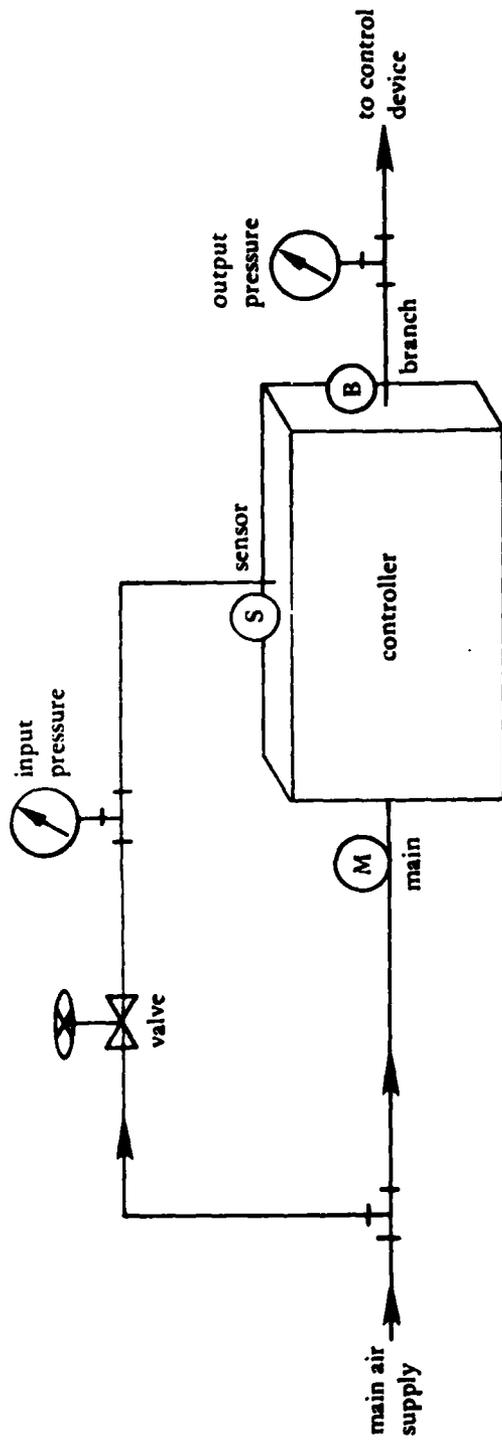

Figure 5. Illustration of test apparatus.
- (1) Disconnect the sensor (or input) line from the controller.
- (2) Connect a calibrated pneumatic gauge to the input port of the controller with a "T" connection (see Figure 5).
- (3) Connect an adjustable restriction, such as a needle valve, to the "T" connection.
- (4) Connect the free end of the adjustable restriction to the main air supply
- (5) Connect a calibrated pneumatic gauge to the output port of the controller.
- (6) Adjust the restriction until the input pressure gauge reads the value of the pressure corresponding to the desired setpoint. You will need data on sensor span and pressure range for this step.
- (7) Turn the setpoint adjustment screw until the output pressure equals the mid-point pressure value (typically 8 psi).
- (8) Adjust the setpoint scale to read the selected value of setpoint.
- (1) Disconnect both the primary and secondary sensors from the controller and install calibrated pressure gauges and adjustable restrictions in their place following the example of Figure 5.
- (2) Connect the open ends of the adjustable restrictions to the main air supply.
- (3) Connect a calibrated gauge to the output port.
- (4) Select one end of the range of primary sensor, say  $V_{1A}$ , and adjust the restriction until the gauge on the primary sensor port reads the value of  $V_{1A}$ .
- (5) Adjust the restriction on the second sensor port until the gauge for the secondary sensor reads the value of  $V_{2A}$ .
- (6) Check to see that the settings for authority and proportional band are as specified. Adjust these values to specification if necessary.
- (7) Turn the setpoint adjustment screw until the output pressure is at the desired extreme value (e.g., 3 or 13 psi).
- (8) Adjust the setpoint scale to read the calculated value of setpoint.
- (9) Adjust the restrictions on the sensor ports so that the input gauges read the values of  $V_{1B}$  and  $V_{2B}$ . The output pressure should now read the other extreme value (e.g., 13 or 3 psi).
- (10) After the HVAC system returns to equilibrium, recheck the calibration.